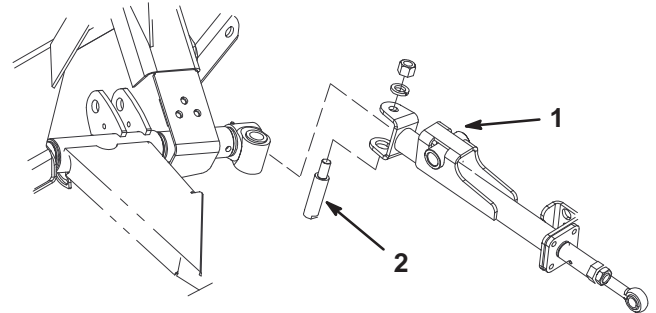

Figure 3
4. Remove nut, washer and pivot shaft securing impact arm assembly to lift arm pivot hub (Fig. 3).